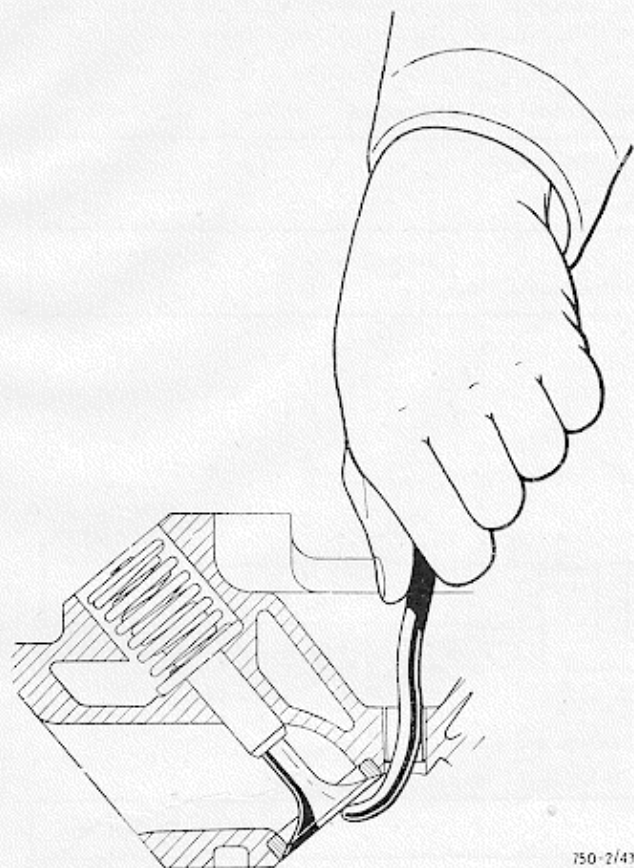

Fig. 43 - Taking off the springs of a valve without dismantling the cylinder head from the block
- d) push into the corresponding spark plug orifice a tool similar to the one illustrated in fig. 43, and apply pressure against the valve head to prevent it from falling into the cylinder and at the same time to allow the cotters, upper spring seat and springs to be dismantled;